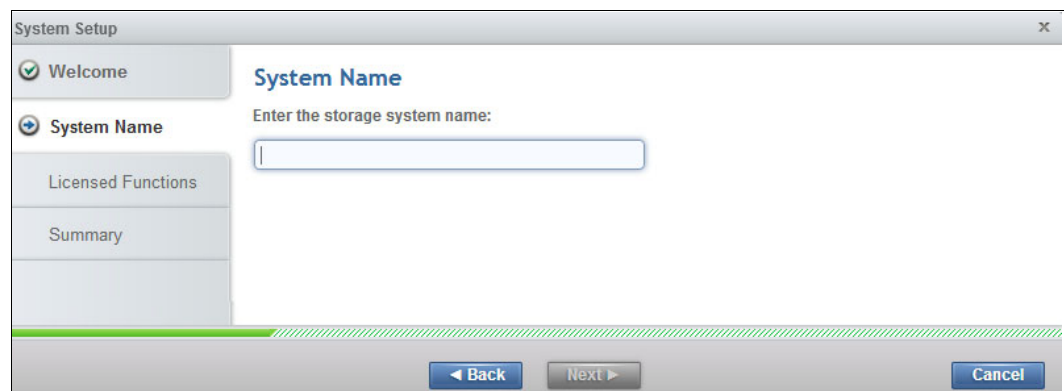

Figure 11-4 System Setup: System Name window
1. Click **Next**. The System Name window opens. The default entry is the storage system serial number, which is shown in Figure 11-4. The user can create a preferred system name that complies with the name convention that is used in the environment.